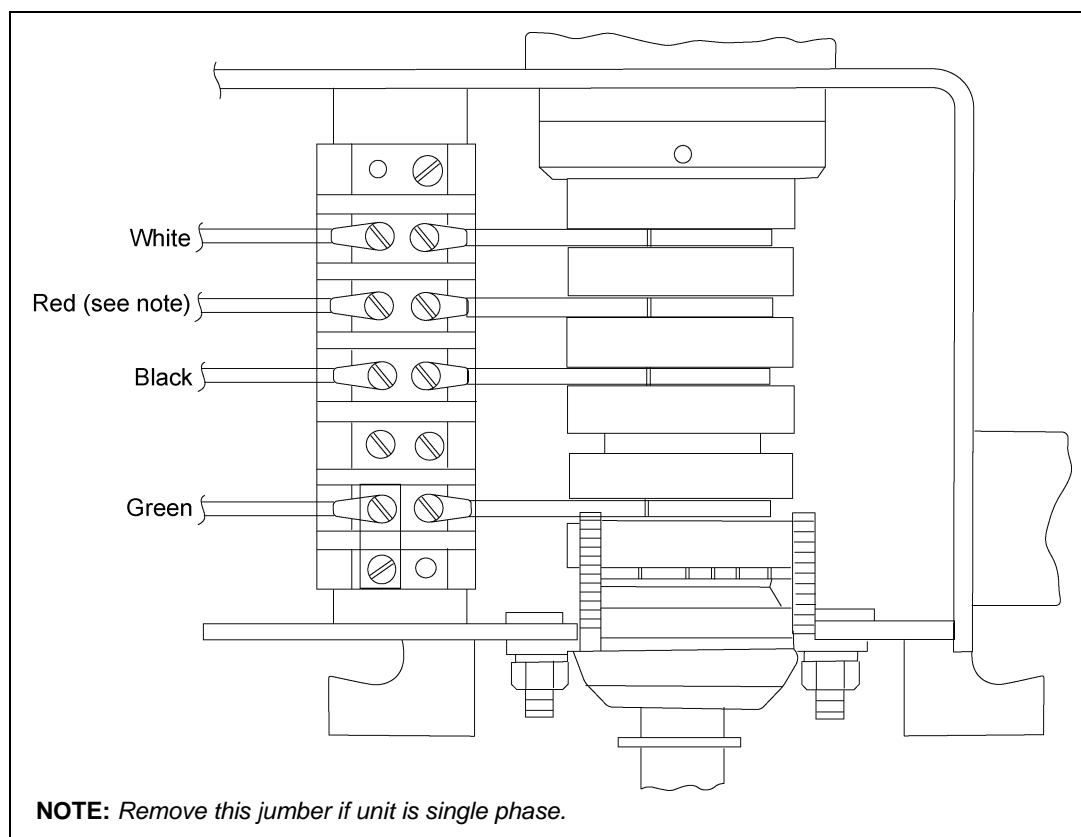

Figure 5E
13. Re-wire the yoke leads to the swivel extension wires and fasten with wire nuts. *(See Figure 5E.)* Rewire the junction box connections following the color coded wires. If you have a single phase unit cap off the red swivel wire.